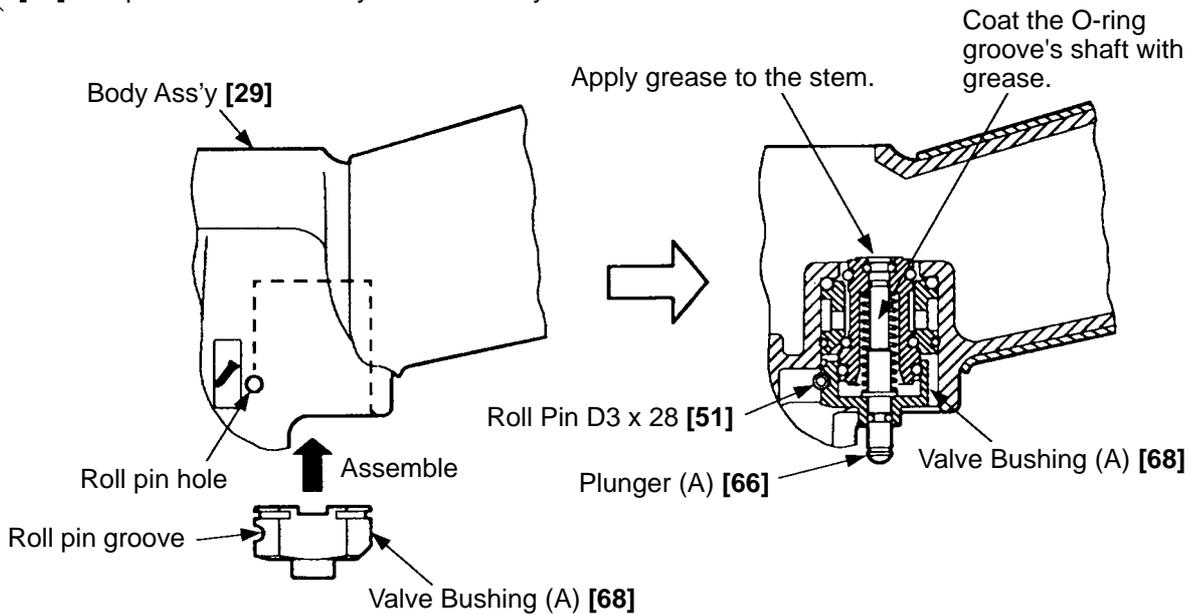

Fig. 19
- Thoroughly apply grease to the O-Ring (I.D 1.8) [67] on Plunger (A) [66], O-Rings (S-4) [62], (I.D 8.8) [61] and (I.D 11) [64] on Valve Piston (B) [63], and the shaft of Plunger (A) [66] as shown in Fig. 19.
- As shown in Fig. 19, install Valve Bushing (A) [68] so that the roll pin groove in Valve Bushing (A) [68] will be aligned with the roll pin hole in the Body Ass'y [29]. First, insert a roll pin puller (3 mm (.118" dia.) into the roll pin hole. Then, upon confirming that the puller passes through the hole, drive in the Roll Pin D3 x 28 [51].